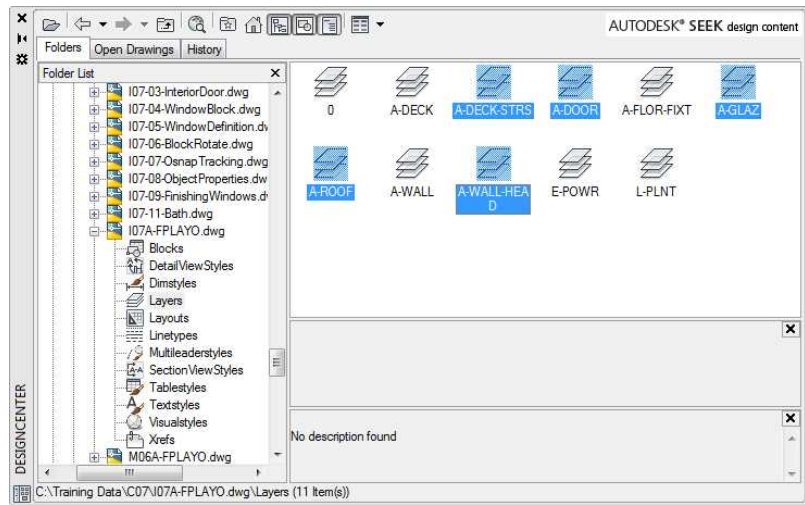

FIGURE 7.54: DesignCenter with the layers to grab highlighted
8. Click the Layers icon on the left side. The list of layers in I07A-FPLAYO.dwg (M07A-FPLAYO.dwg) appears in the panel on the right (see Figure 7.54).
9. Use the Shift and Ctrl keys to help you select all the layers except 0, A-DECK, A-FLOR-FIXT, and A-WALL (see Figure 7.54).